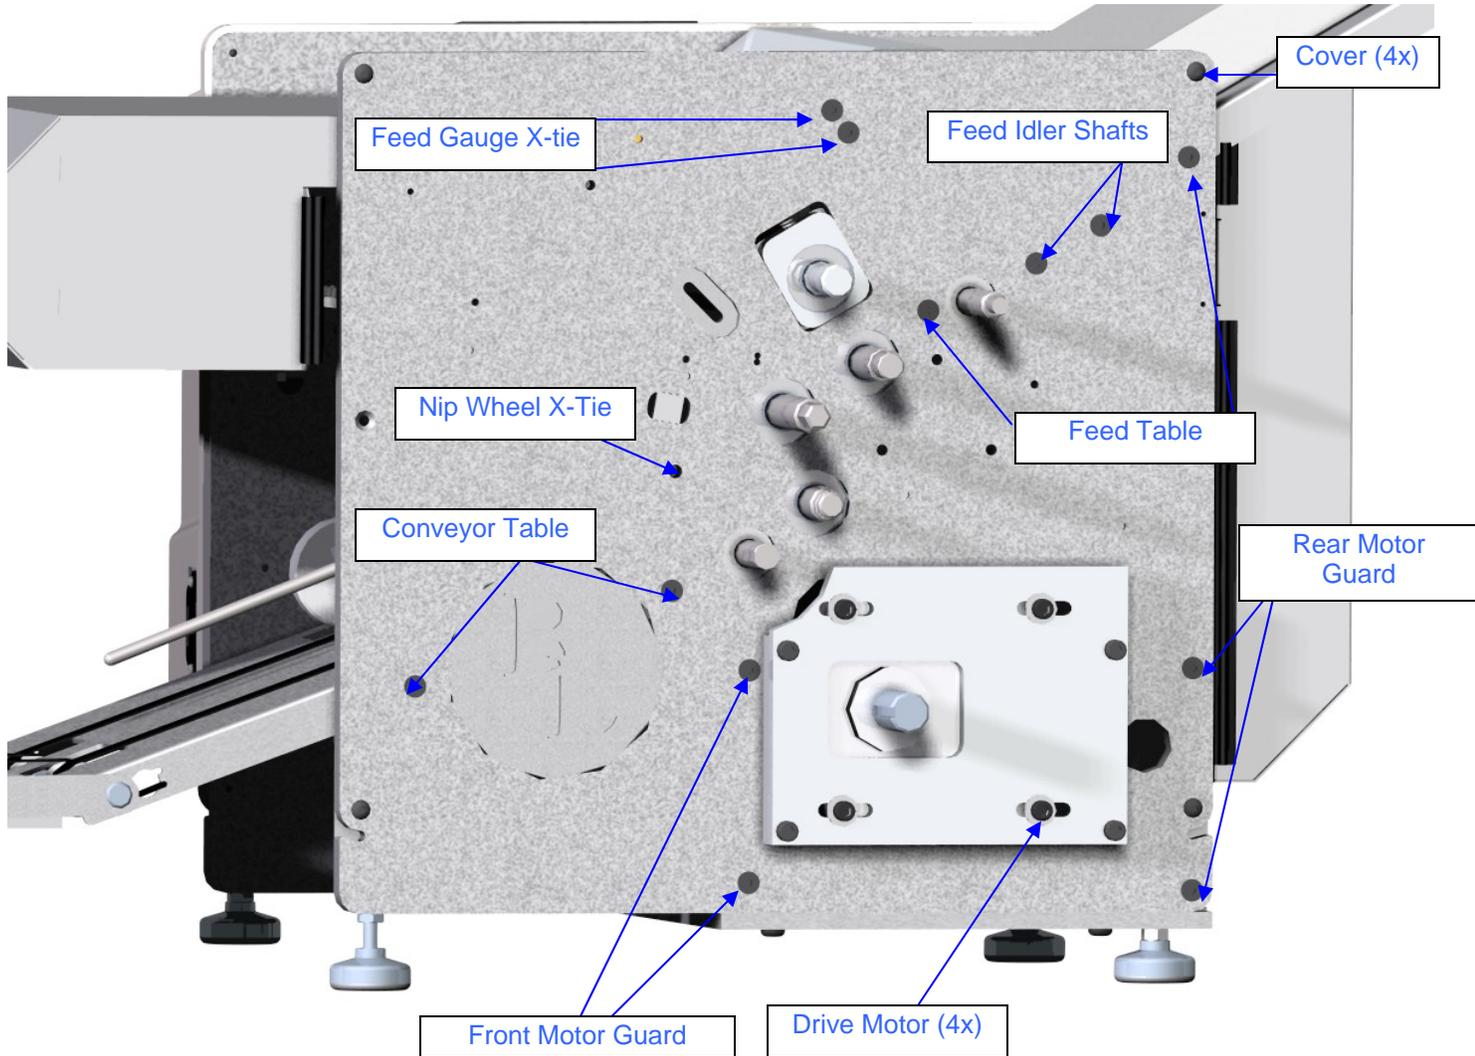

Figure 19: Side Frame Screws
3. Remove the **x-tie screws** from both side frames. (See Figure 19)
Note: If the **x-Tie** is too tight in the chassis to remove it maybe necessary to loosen the **feed table, feed idler shafts, conveyor, sensor x-tie, and front & rear motor guard screws** on the **motor side frame**. (See Figure 19)
2. Remove the **x-tie screws** from both **side frames**. (See Figure 19)
3. Remove the **feed gauge x-tie mounting screws** from the drive train side of the chassis. (See Figure 19)
4. Remove the **feed table mounting screws** from the drive train side of the chassis. (See Figure 19)
5. Remove the **feed roller mounting screws** from the drive train side of the chassis. (See Figure 19)
6. Remove the **conveyor table mounting screws** from the drive train side of the chassis. (See Figure 19)
7. Remove the **nip wheel x-tie mounting screw** from the drive train side of the chassis. (See Figure 19)